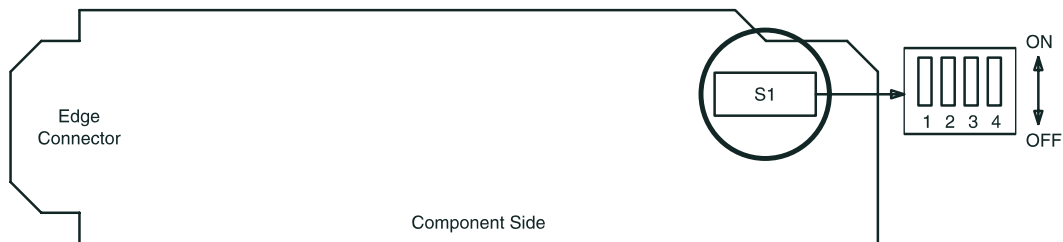

Figure 10. BBF8 HDSL Control Switch
34. Set **HDSL** option switches per Table O and Figure 10.